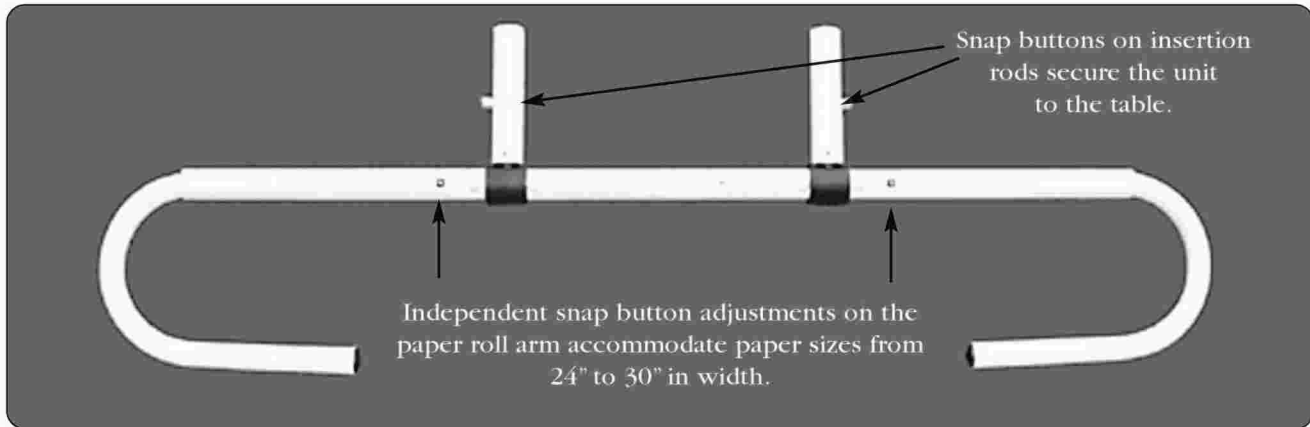
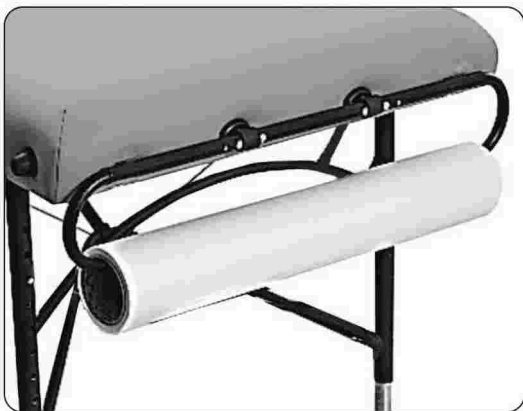

Fig. 1
Fig. 2
1. Hold the snap buttons in (Fig 1) and insert the rods into the outlets at either end of the table. (Fig .2)
2. Use the smaller snap buttons on the paper roll arm to adjust it for the accomodation of paper rolls from 24" to 30" in width. (Fig.1)